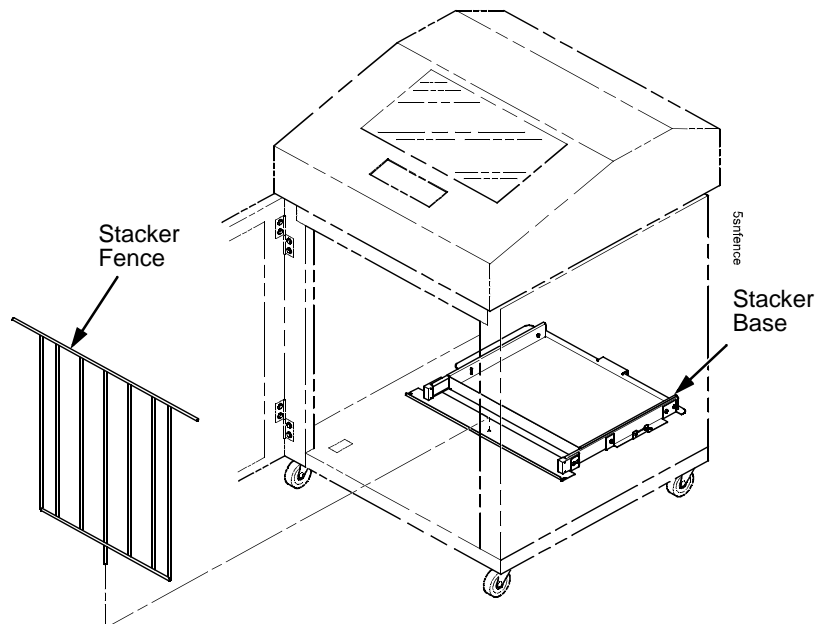

Figure 64. Removing the Paper Fence
5. Cut the tie wrap (if present) and remove the paper fence. (Figure 64.)